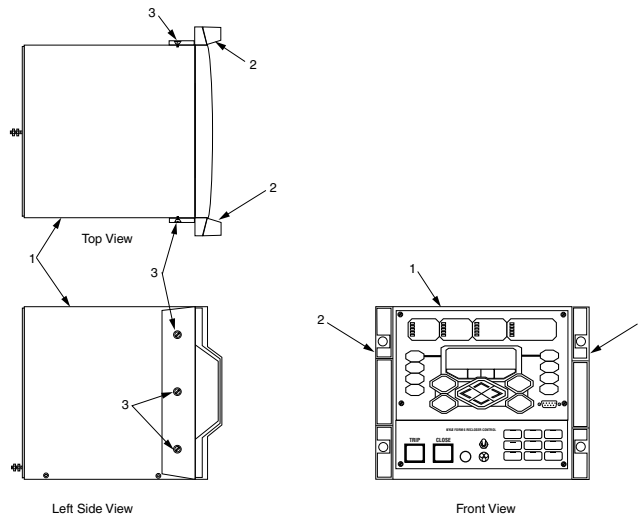

Figure 2. KME6-1802 Single Rack Mount Handle Attachment
These instructions apply to the attachment of the handles to the Form 6 Single Rack Mount Recloser Control (Figure 2). Follow this procedure to attach the handles to both sides of one control.
Table 1. Form 6 Recloser Control Single Rack Mount Handle Attachment Parts List (Refer to Figure 2.)
3. Orient the handles as illustrated in Figure 2